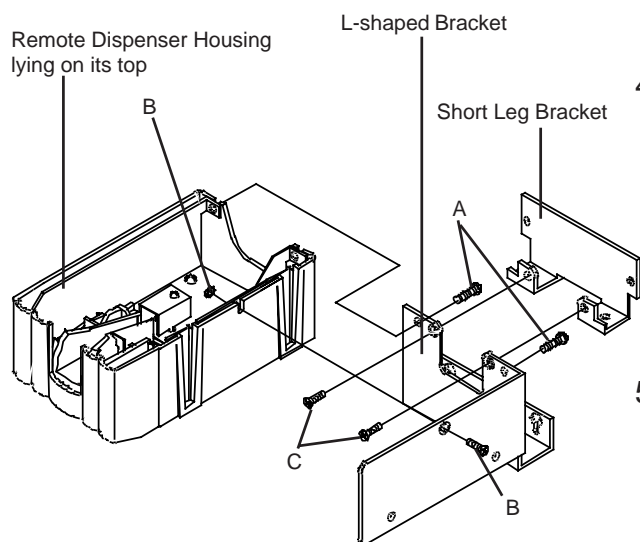

Figure 4 Remote Dispenser Housing Installation in Remote Locations
2. Lay the remote dispenser housing on its top. Place the L-shaped bracket to the right and back sides of the remote dispenser housing. Replace the two screws (1/2" x 8/32" pan head) removed in step 1 into the back of the housing to attach the bracket (See Figure 4, A).
3. Place one flat head screw (1/2" x 8/32") into the left side bottom of the L-shaped bracket. Secure it with the nut supplied. (See Figure 4, B).
4. Locate the short leg bracket and two flat head screws (1/2" x 8/32"). Line up the two holes on the short legs with the two holes on the remote dispenser housing. The long leg should point up. Screw in the two flat head screws to attach the bracket. (See Figure 4, C).